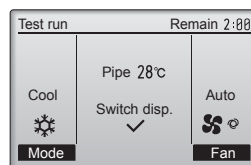

Fig. 7-5
- (1) Press the to go through the operation modes in the order of "Cool" and "Heat". (Fig. 7-5)